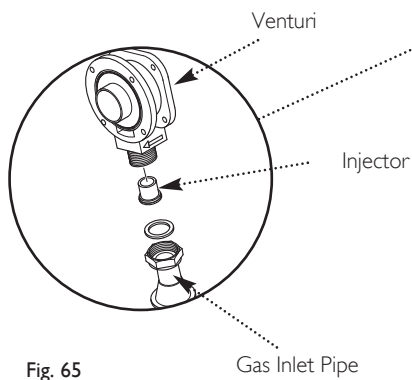

Fig. 65
6. Undo the nut on the gas inlet pipe to the venturi (Fig. 65) and pull the sensing pipe off the fan.
9. Carefully draw the fan, collector and cover assembly forward, being careful to retain the injector in the venturi (Figs. 65 & 66).